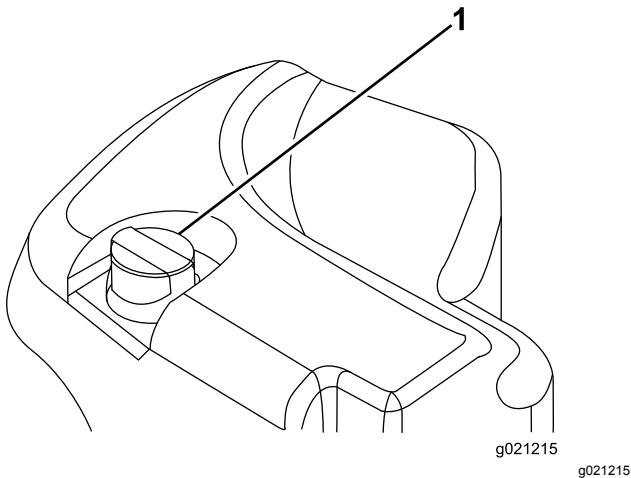

Figure 14
2. Clean area around filler neck and cap of hydraulic tank (Figure 14).